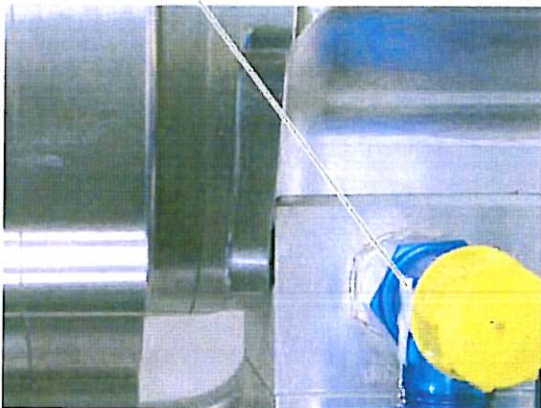

Figure 2
2. *Detach the the T-piece from the Constant Speed Unit (CSU) while holding the adapter steady. Seal the Constant Speed Unit (CSU) with an appropriate plug to protect it from contamination or dirt. See Figure 2.*